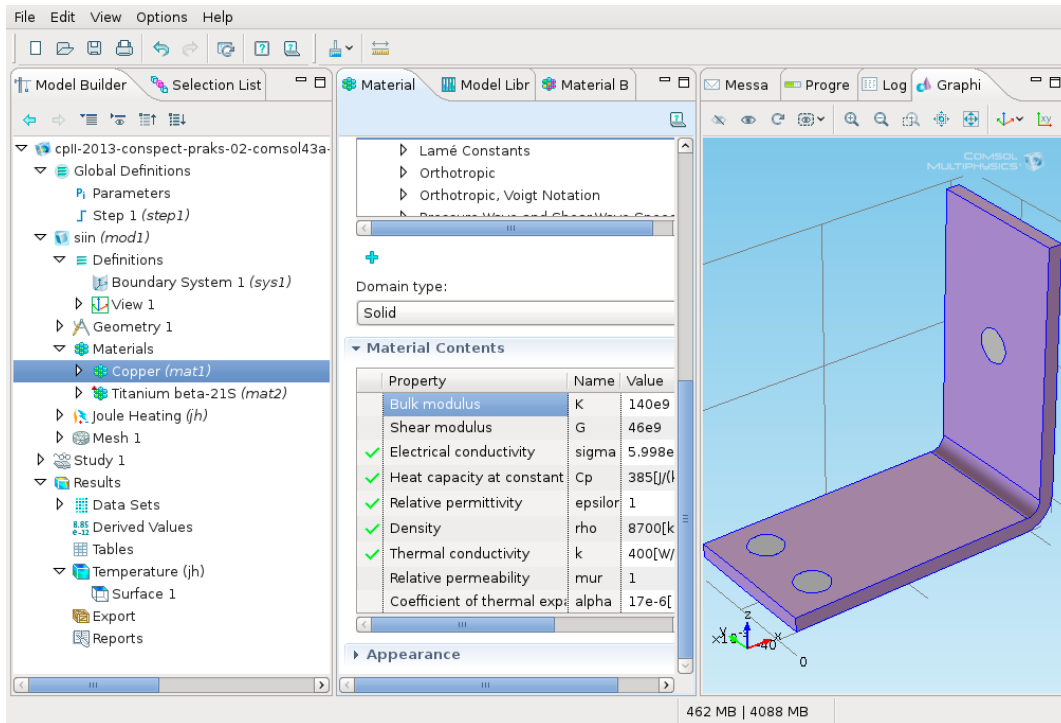

Figure 4: Values of Material Properties.
- Bulk modulus** ja **Shear modulus** appear now in the *Material Contents* table. The exclamation mark as a warning sign shows that the values are not defined. Enter **140e9** into the **Value** column for the **Bulk modulus** and **46e9** for the **Shear modulus** into the same column (Fig. 4).